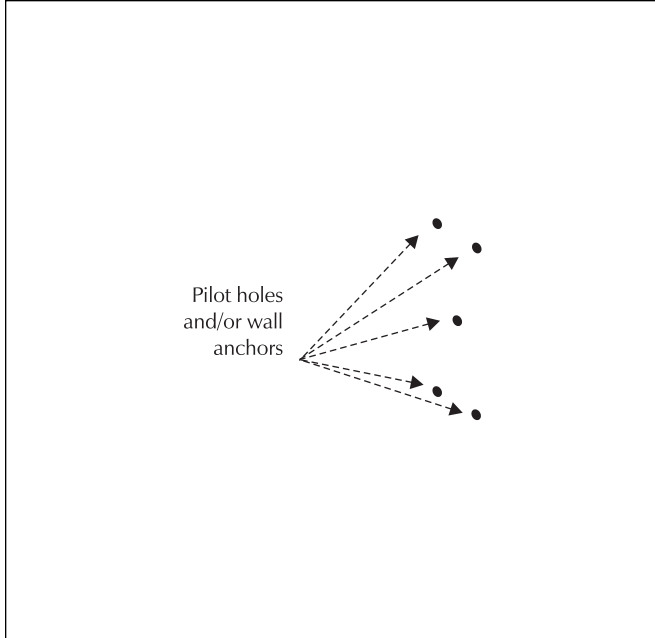

Figure 6. Step 5
- 5 Set the wall bracket aside. Using a 1/8" bit, drill a pilot hole at all five points. If any of the pilot holes hit a stud during this step, DO NOT widen the pilot hole and install a wall anchor at that location. If a pilot hole does not hit a stud, use a 1/4" bit to widen the pilot hole and using a Phillips screwdriver install the wall anchors so they are flush with the wall (see figure 6).